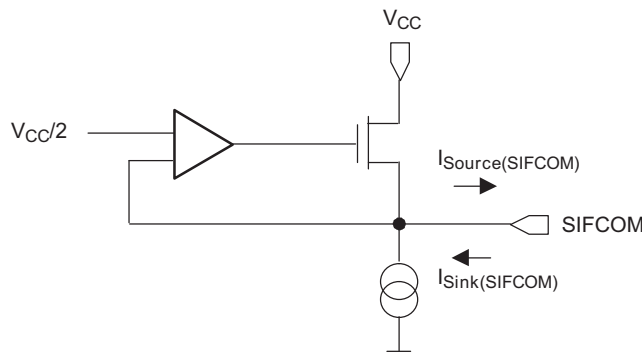

Figure 20. P6.x/SIFCHx Timing, SIFCHx Function Selected
- (1) The sink and source currents are a function of the voltage at the pin SIFCOM. The maximum currents are reached if SIFCOM is shorted to GND or  $V_{CC}$ . Due to the topology of the output section (see Figure 20) the  $V_{CC}/2$  generator can source relatively large currents but can sink only small currents.